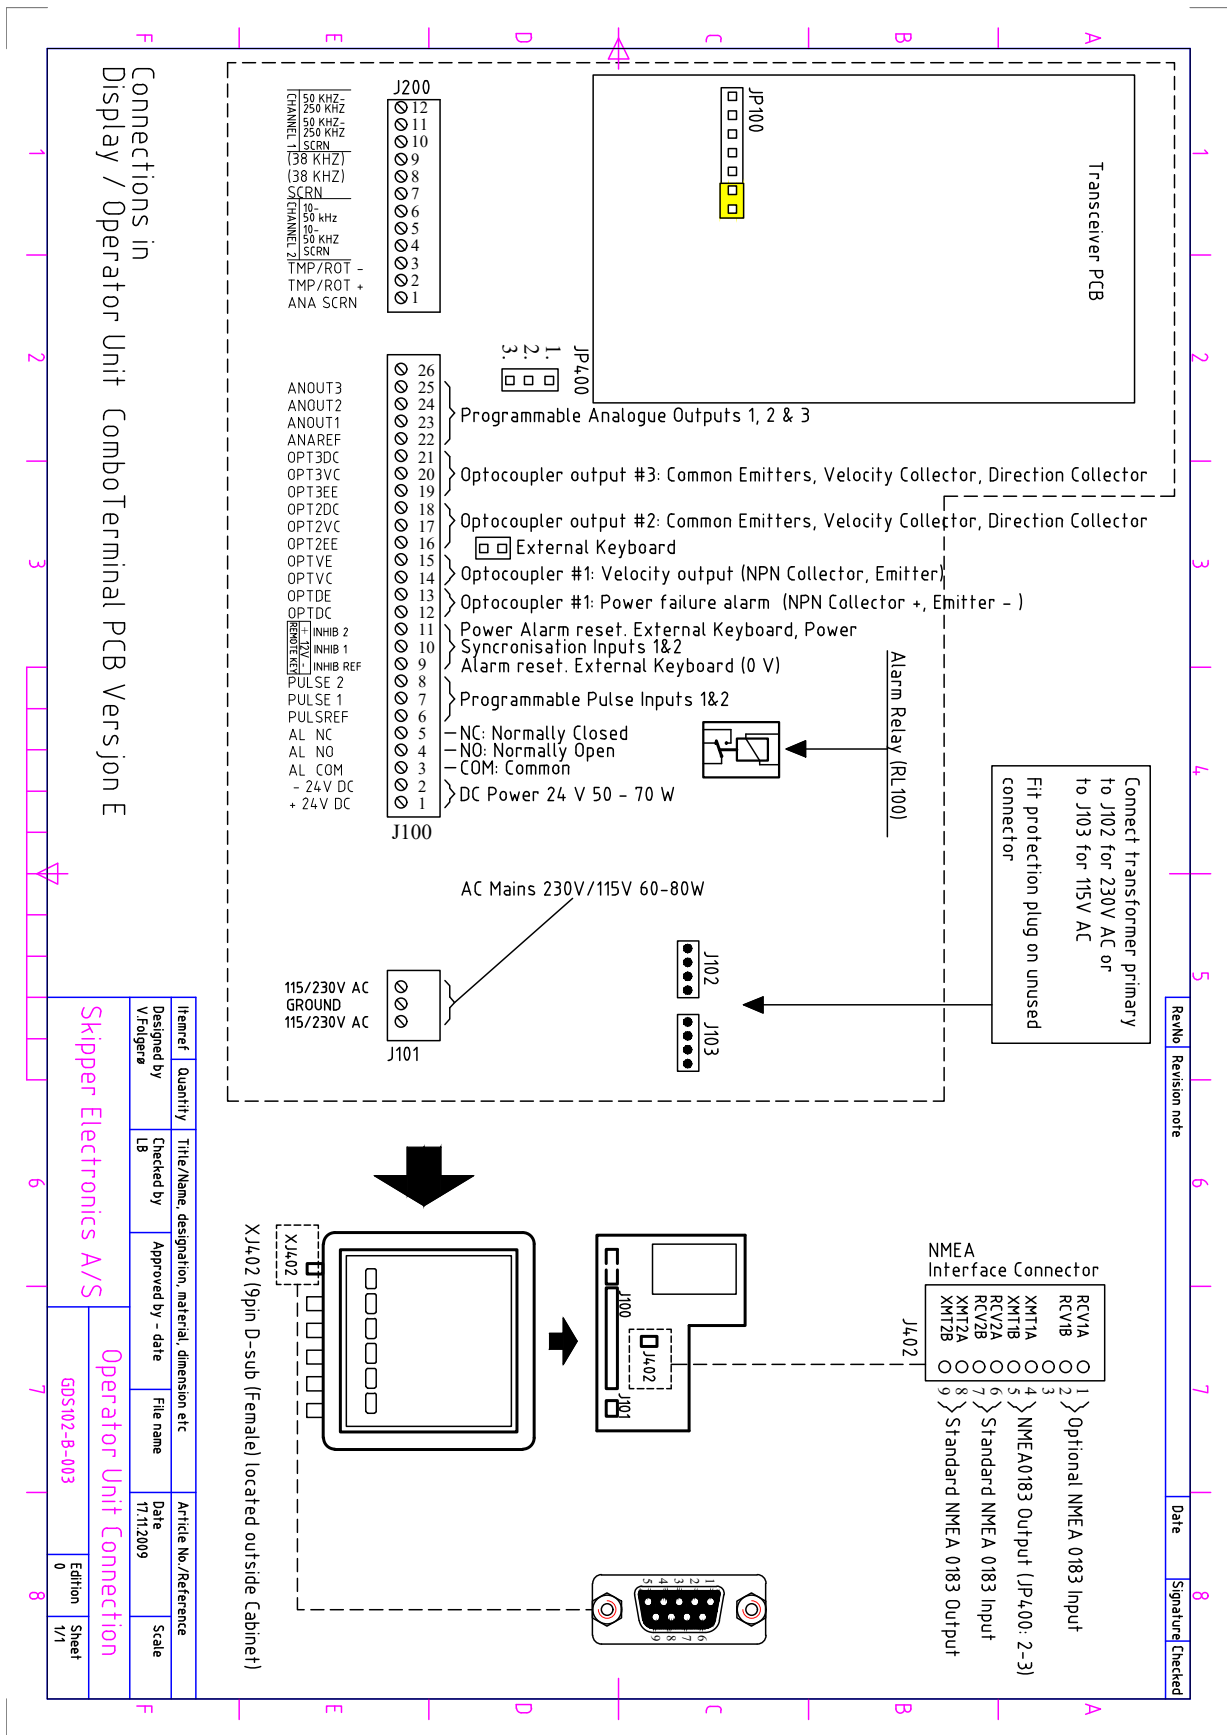
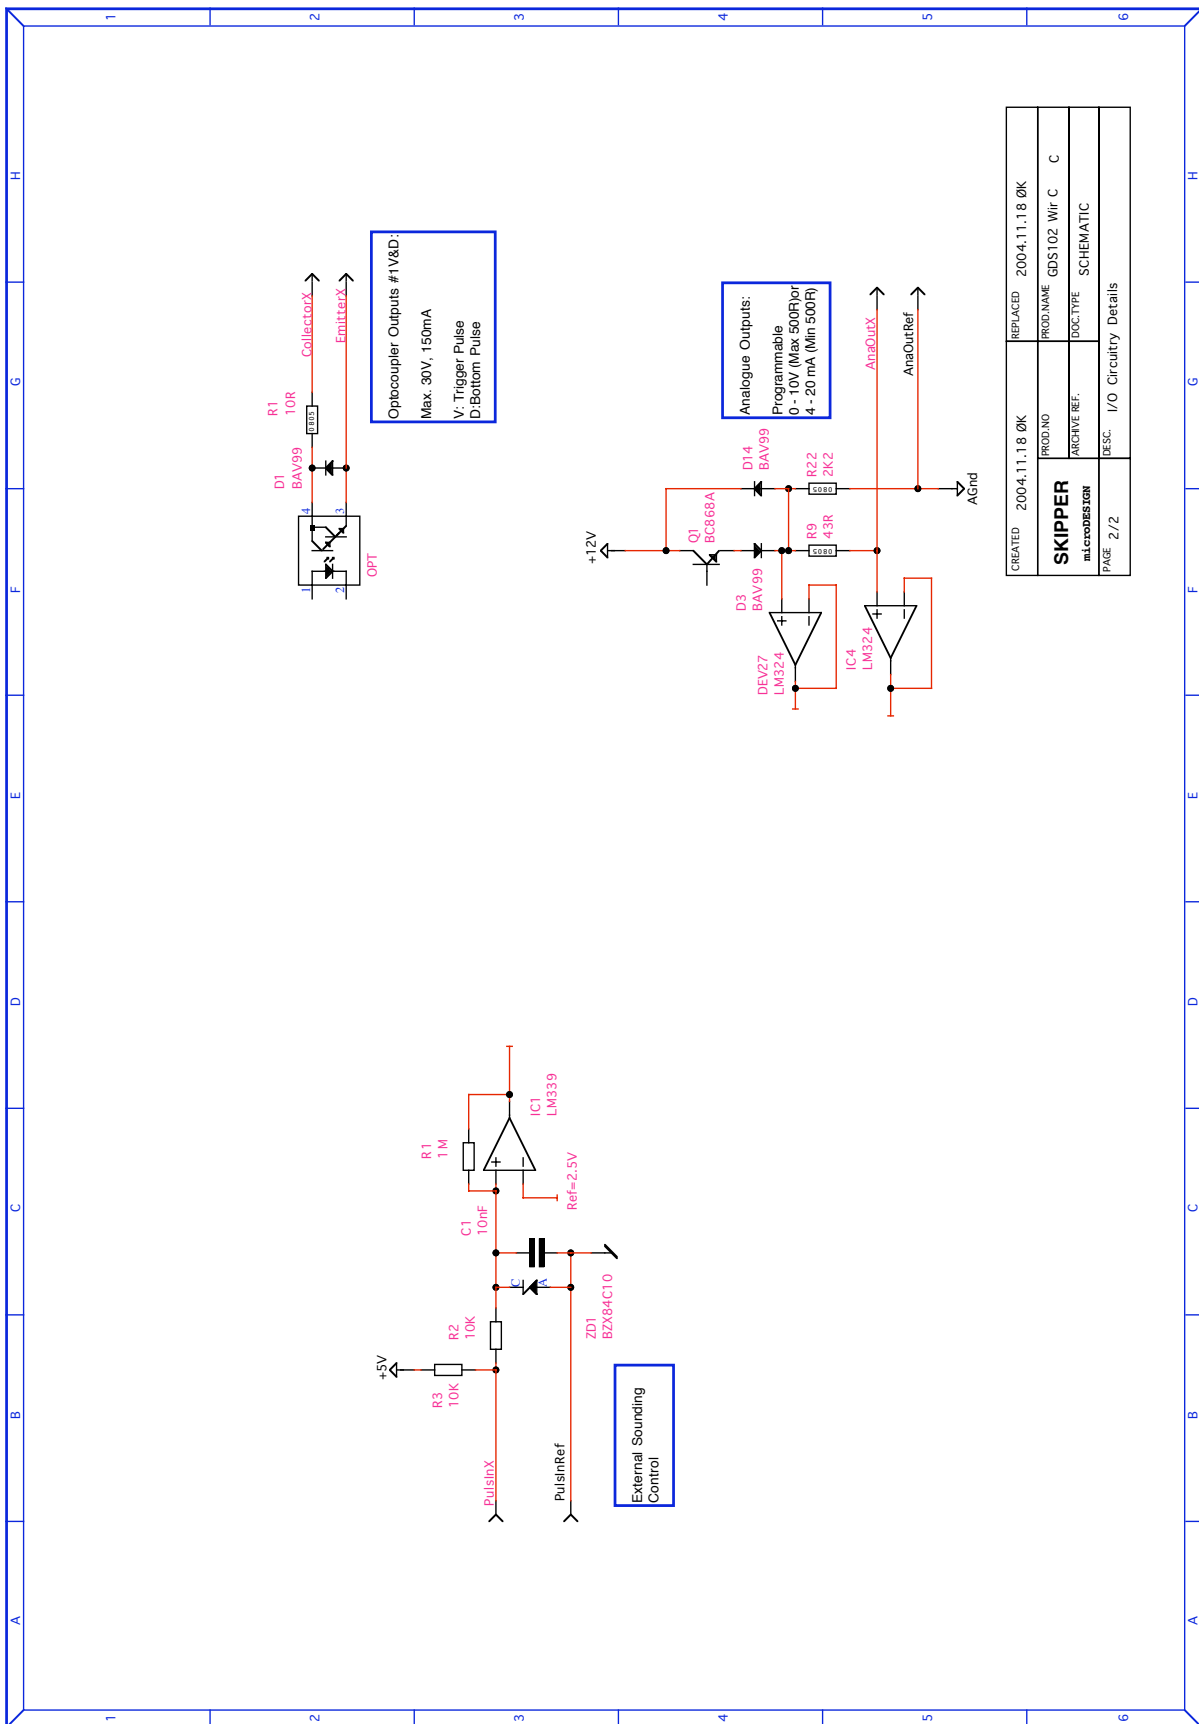
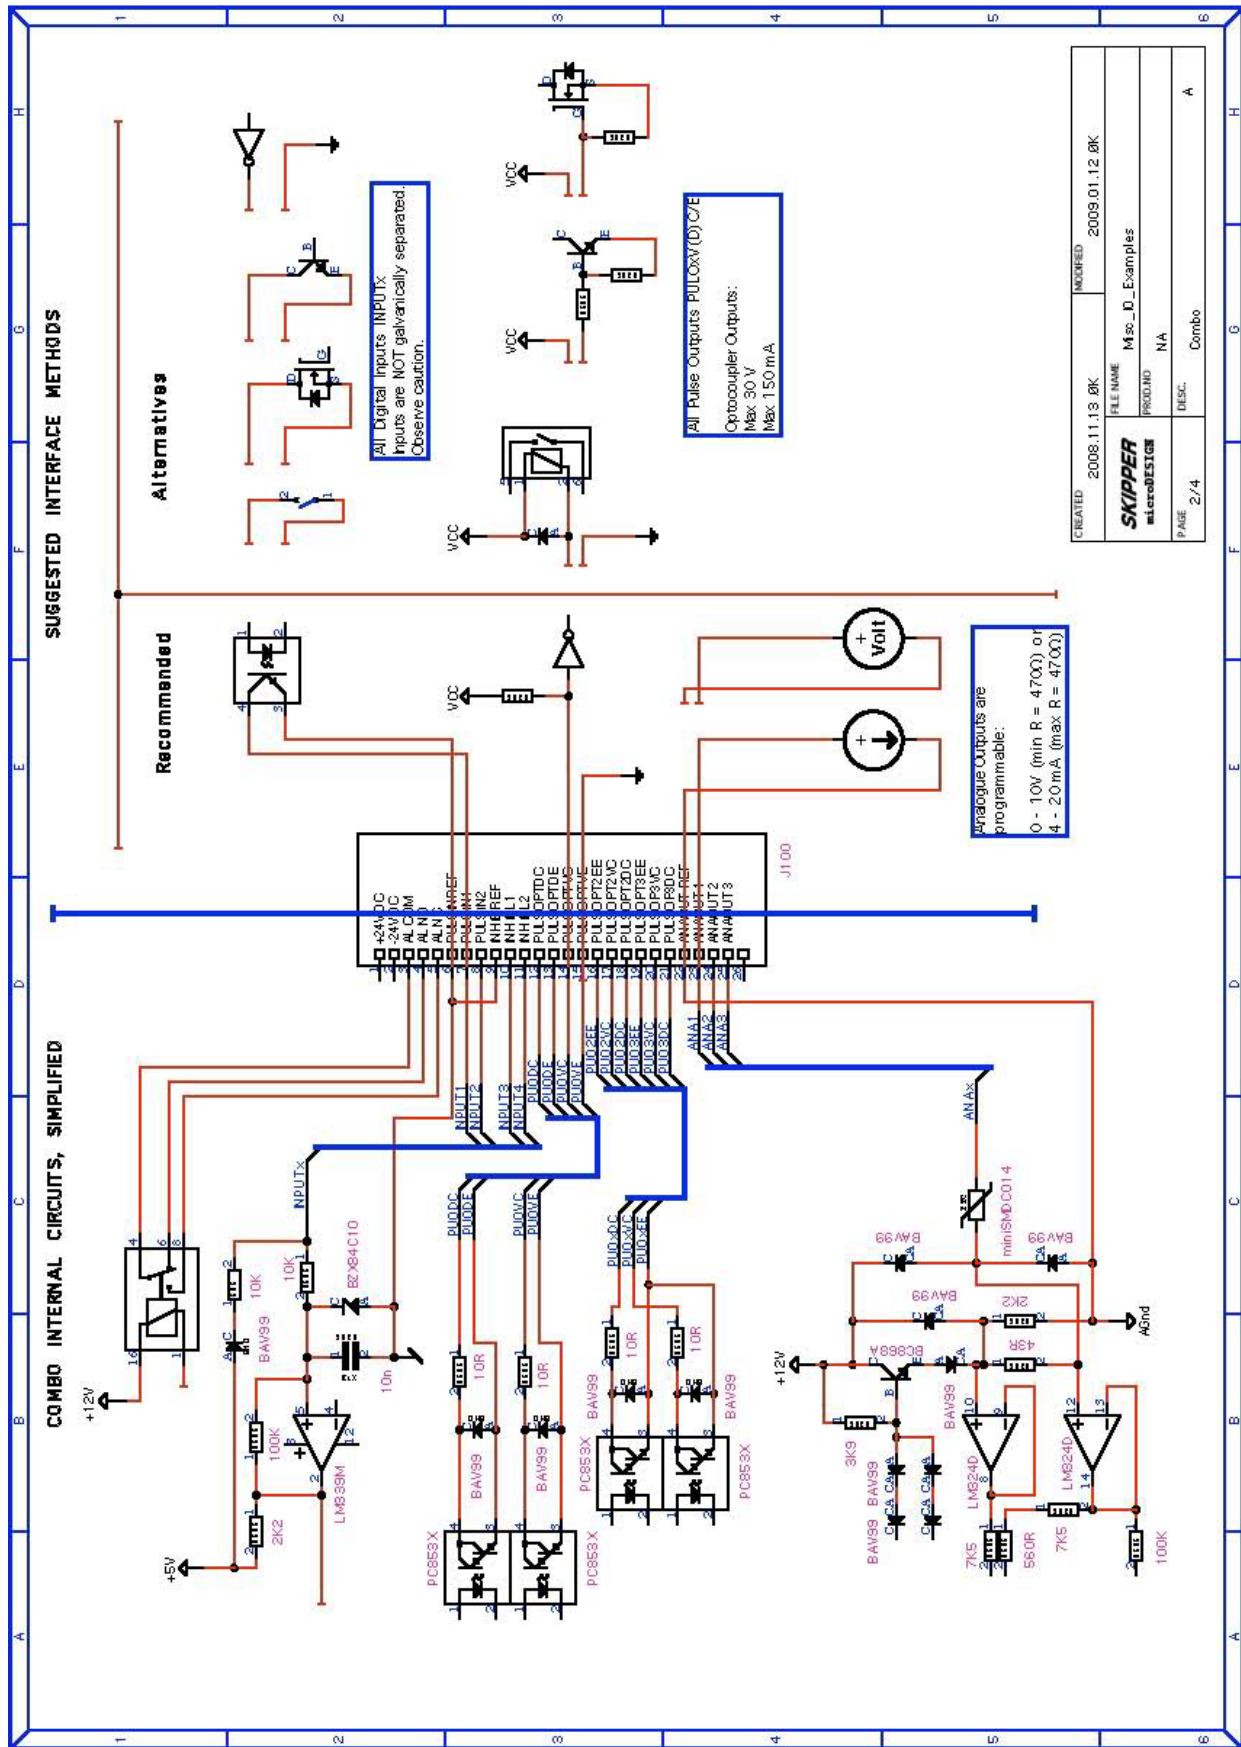
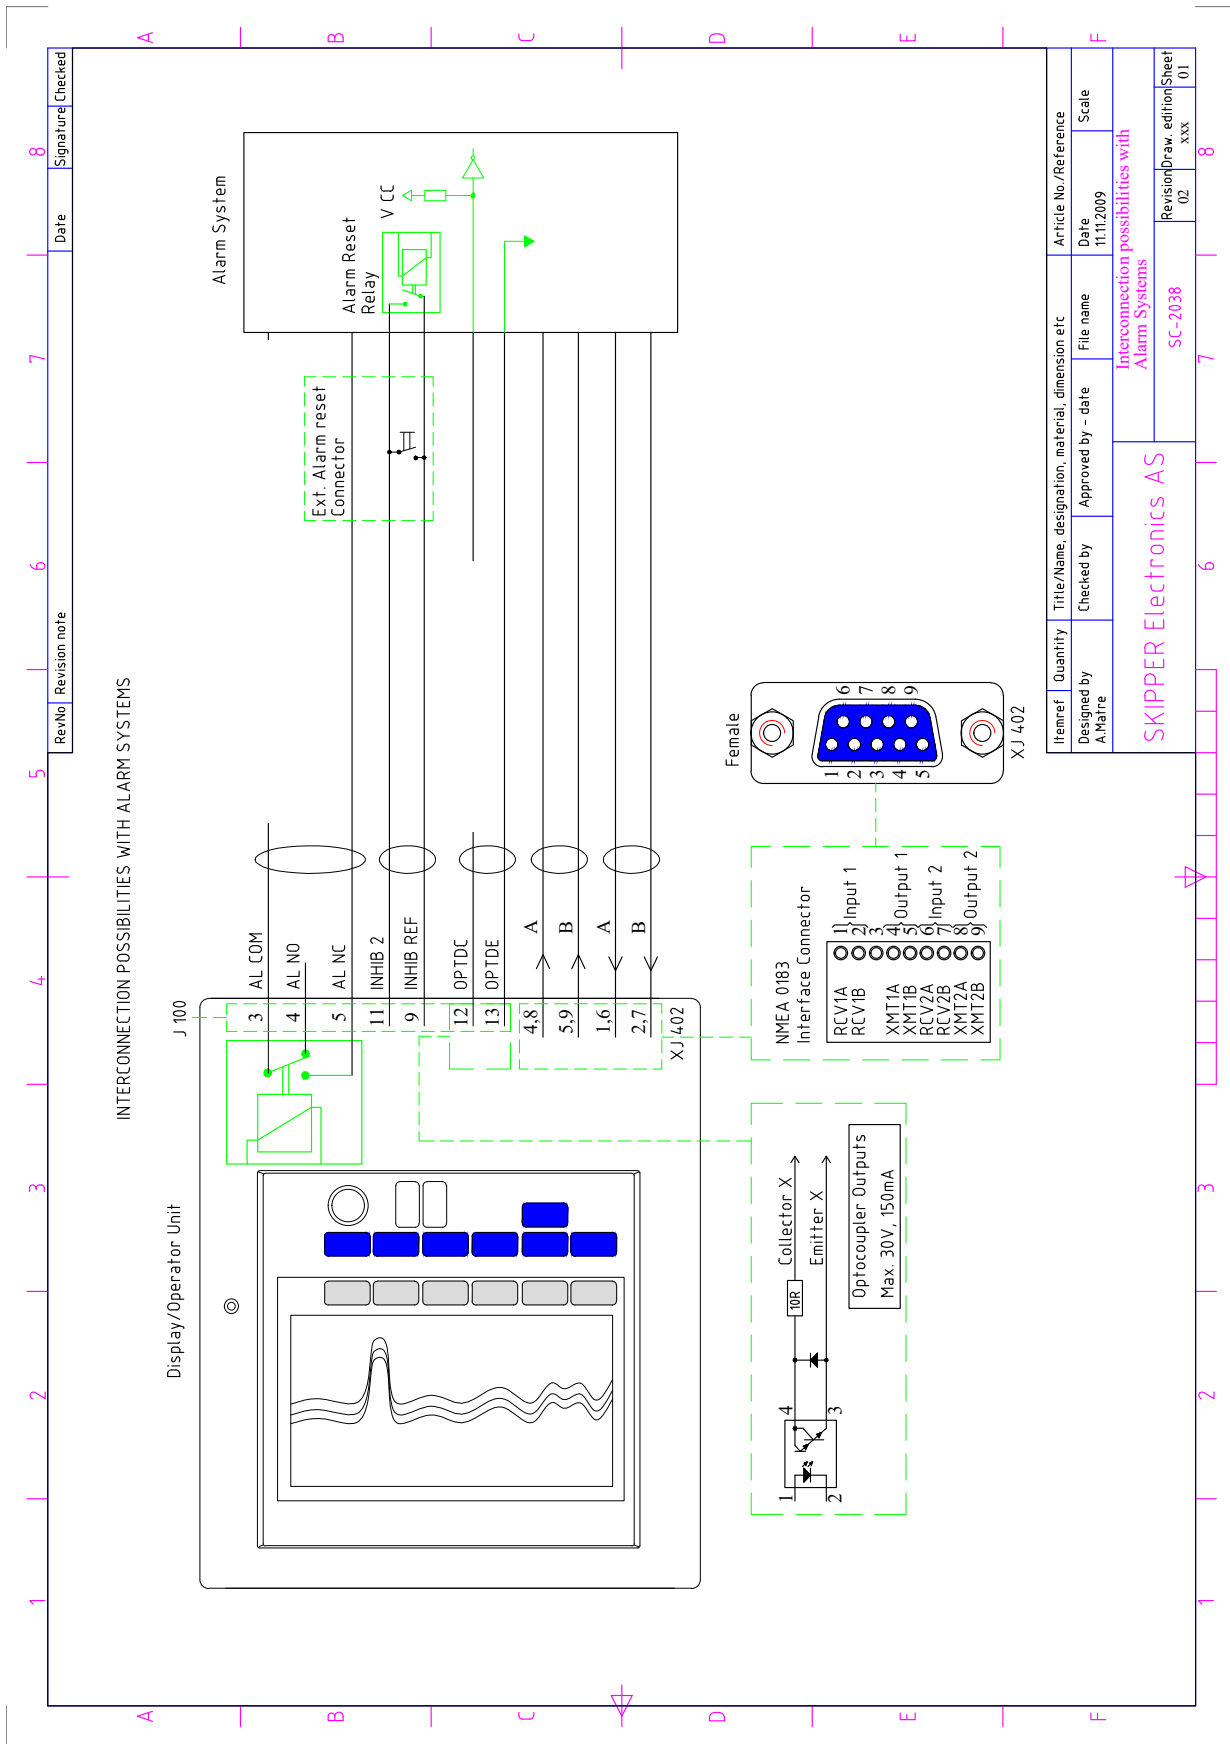

Fig. 3.8. Terminal board connections
Fig. 3.9. Input/Output Circuitry 1
Fig. 3.10. Input/Output Circuitry 2
Fig. 3.11. Input/Output Circuitry 3
The transducer is always connected with 1 pair plus screen. See “Fig. 3.8. Terminal board connections” on page 48.
The GDS102 NMEA outputs provide NMEA 0183 format information for other equipment with NMEA 0183 inputs. Baud rate is 4800 or 9600, 8 bit, no parity. Several messages may be selected on screen 10 (see “Fig. 2.11. Screen 10. NMEA control screen.” on page 23) and the enabled messages are transmitted with a maximum interval of one per second. The NMEA inputs accept speed, position, heading and UTC time messages from various navigators and compasses. The NMEA outputs and inputs are available on the XJ402 connector on the external panel. See “Fig. 3.5. Data Communication Interfaces.” on page 42, “Fig. 3.6. Data Communication Interfaces.” on page 43, “Fig. 3.8. Terminal board connections” on page 48 and “Fig. 4.1. nmea connector XJ402.” on page 55 for more details. Each of the outputs can supply more than 20 mA and can therefore drive at least 10 other standard NMEA 0183 inputs.
**Note:** The factory setting of jumper JP400 on the terminal board (underneath the dual transceiver PCB, see “Fig. 3.8. Terminal board connections” on page 48) is 1 to 2, providing two individually controlled NMEA outputs. If the jumper is moved in position 2 to 3, both outputs are controlled (baud rate and scope of transmitted sentences) by the settings of NMEA PORT 2 on screen 10. If the jumper is removed, only one NMEA output is available (NMEA PORT 2). In the last case, the settings for output of COM PORT 1 have no meaning. Both NMEA inputs are always available and individually programmable (baud rate) regardless of the setting of JP400.
See “Fig. 3.8. Terminal board connections” on page 48, “Fig. 3.10. Input/Output Circuitry 2” on page 50 and “Fig. 3.11. Input/Output Circuitry 3” on page 51 for connection details.
GDS102 is equipped with 2 analogue outputs to supply analogue repeaters or other equipment with analogue inputs. The signals are galvanically connected to the GDS102. Standard range is 0 - 10 V or 4 - 20 mA corresponding to shallow (ANA UPPER) and deep (ANA LOWER) settings. For more details, see “Fig. 2.8. Screen 7. Interface setup screen.” on page 20, “Fig. 3.8. Terminal board connections” on page 48, “Fig. 3.9. Input/Output Circuitry 1” on page 49, “Fig. 3.10. Input/Output Circuitry 2” on page 50.
Two optocoupler outputs provide a transmitter trigger pulse and bottom pulse output. These outputs can be used to connect a repeater e.g. SKIPPER IR201, or to synchronize other hydroacoustic equipment to avoid interference. See “Fig. 3.8. Terminal board connections” on page 48, “Fig. 3.9. Input/Output Circuitry 1” on page 49 and “Fig. 3.10. Input/Output Circuitry 2” on page 50 for output details.
The unit may optionally be operated from a remote keyboard. If you have combo terminal PCB version E (or higher), a jumper is provided (JP900) for 12 V. See “Fig. 3.8. Terminal board connections” on page 48. Otherwise modifications must be made (contact SKIPPER).
This option lets the GDS102 being controlled remotely in continuous/edge/level/single ping modes. If installed, these options are accessible on screen 3. See “Fig. 2.4. Screen 3. Power adjustment and options.” on page 16, “Fig. 3.8. Terminal board connections” on page 48, “Fig. 3.9. Input/Output Circuitry 1” on page 49 and “Fig. 3.10. Input/Output Circuitry 2” on page 50 for more details.